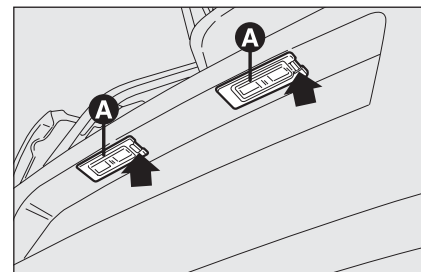

fig. 27
- ☐ work in the point shown by the arrow and remove lens **A**-fig. 27;